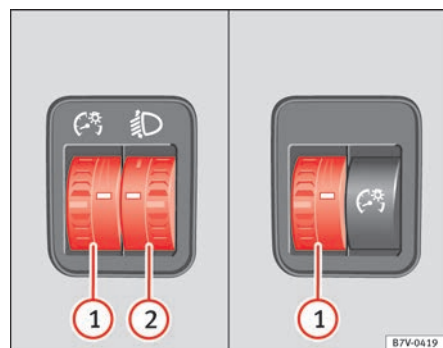

Fig. 63 Next to the steering wheel: instrument and switch lighting control ① and headlight range control ②.
When the headlights are switched on, the brightness of the instruments and switch lighting can be regulated to suit your requirements by turning the switch ⇒ fig. 63 ①.